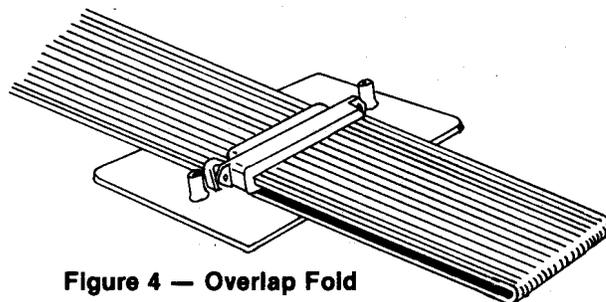

Figure 4 — Overlap Fold
2.01 Paragraphs 2.02, 6.01.07, and 9.01.01(i) of the attached Brand-Rex practice refer to the use of the overlap fold. This fold is illustrated in Fig. 4 and Fig. 8 of the practice. This fold is not recommended unless alternative methods of cable storage are not possible.